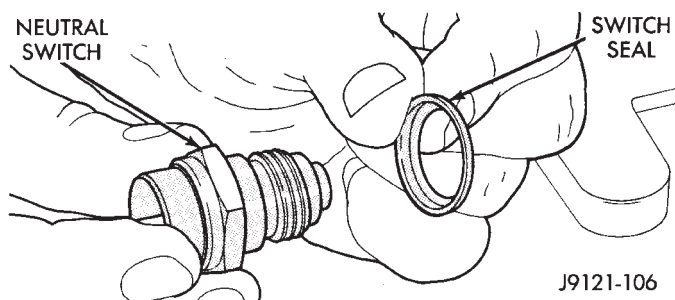

Fig. 157 Park/Neutral Position Switch Seal Position
(51) Install new filter on valve body. Tighten filter screws to 4 N•m (35 in. lbs.).
(52) Install seal on park/neutral position switch (Fig. 157). Then install and tighten switch to 34 N•m (25 ft. lbs.).